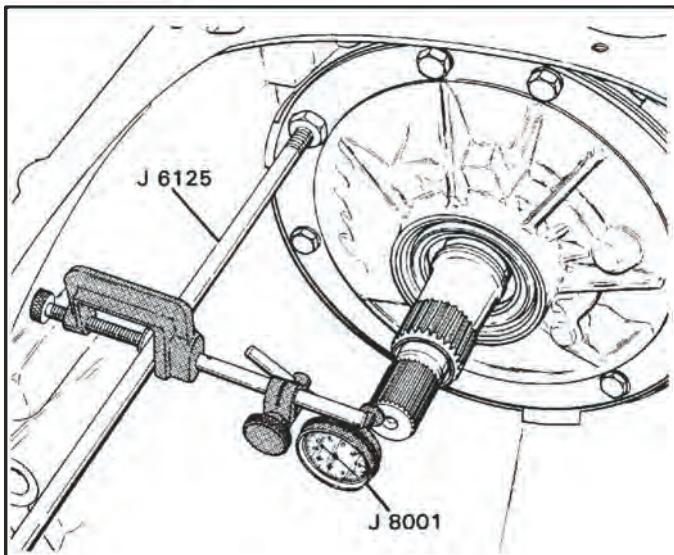

Figure 40
13. Remove one oil pump retaining bolt and install J-6125-1 in bolt hole as shown in Figure 40.
14. Install dial indicator on bolt and index indicator to flat surface on the end of turbine shaft as shown in Figure 40.